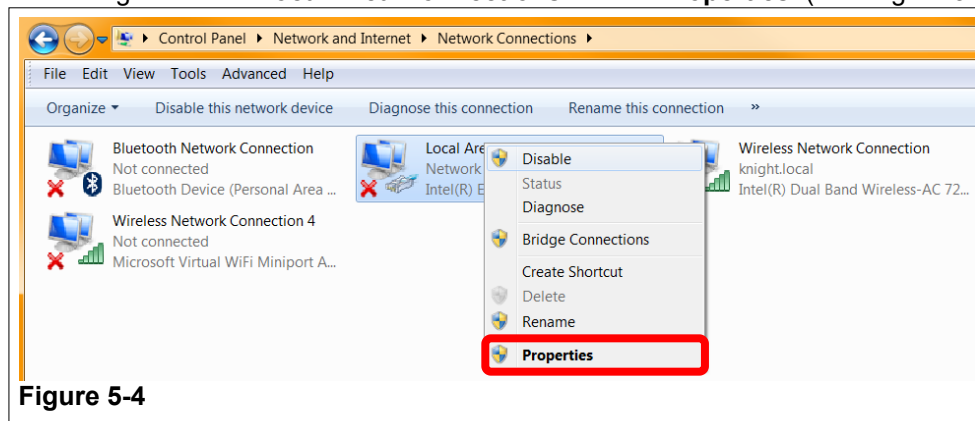

Figure 5-4
- Right click on **Local Area Connections**. Select **Properties**. (See Figure 5-4)